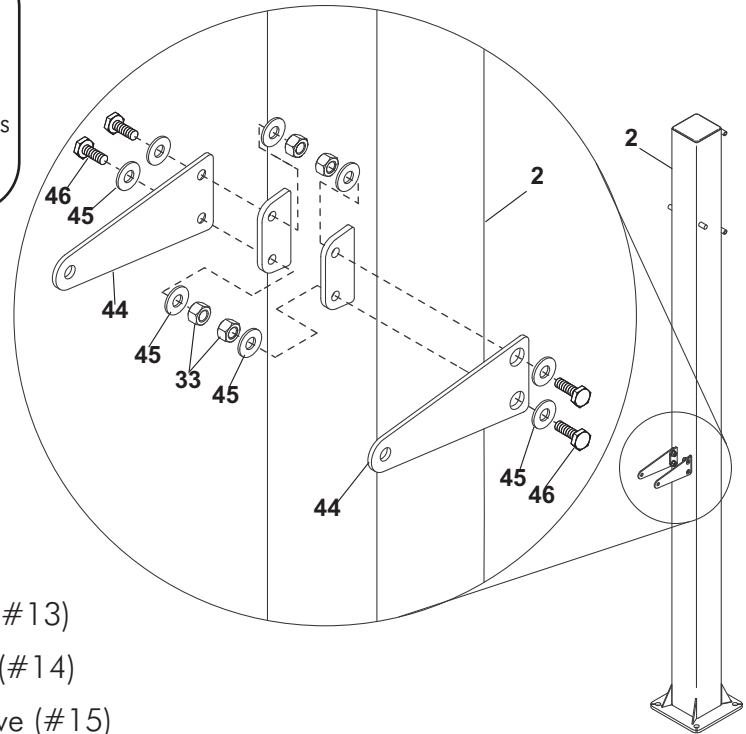

Figure 3
1. Attach Post Brackets (#44) to outside of brackets on back of Post Assembly (#2). Secure with two Hex Head Bolts (#46), four Wide Flat Head Washers (#45) and two Locknuts (#33) **in each Bracket** (#44). See **Figure 3**.